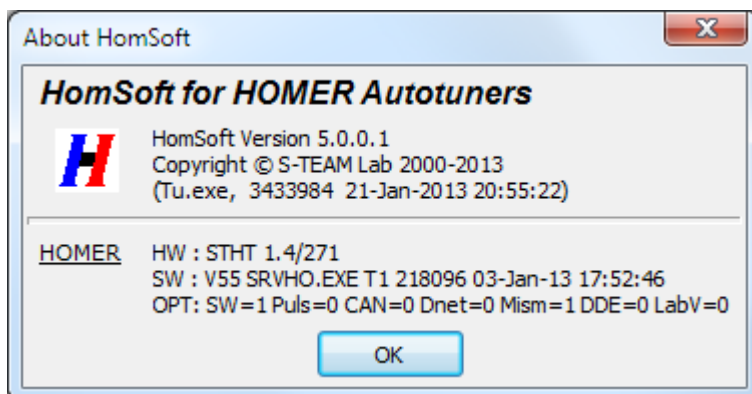

Figure 52. About window example.
5. Paste the clipboard to MyProblem file (see example in Figure 52).